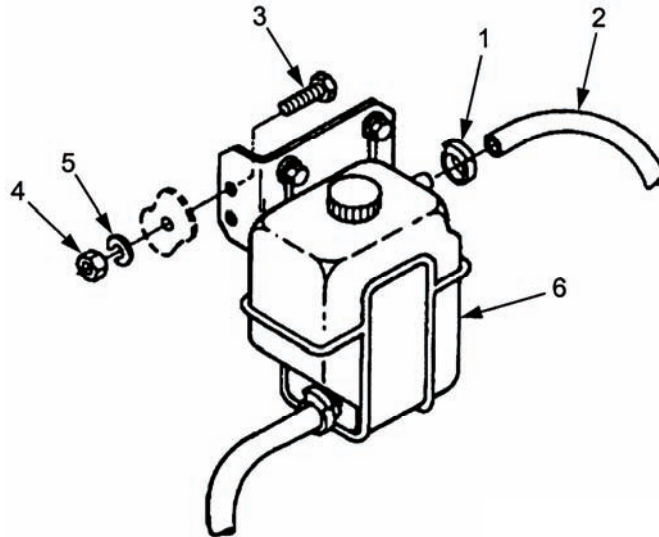

Figure 5-7. Coolant Overflow Bottle.
- a. Remove clamp (1, Figure 5-7) and disconnect hose (2) from coolant overflow bottle (6).
- b. Remove two bolts (3), nuts (4), lock washers (5), and coolant overflow bottle (6) and brackets from left side of engine. Discard lock washers (5).
- c. Inspect coolant overflow bottle (6) and attaching hoses. Replace, as necessary.